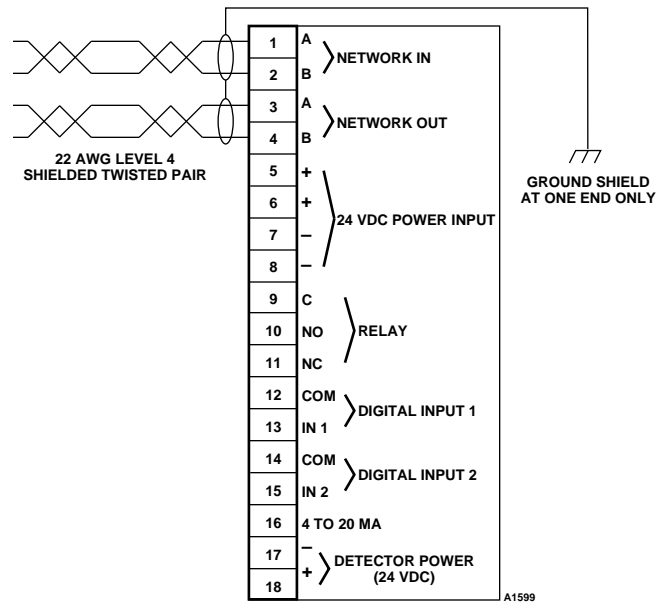

Figure 16—Wiring Configuration for Communication Module and DCU
4. Connect external system wiring to the appropriate terminals on the terminal block inside the junction box. See Figure 16.